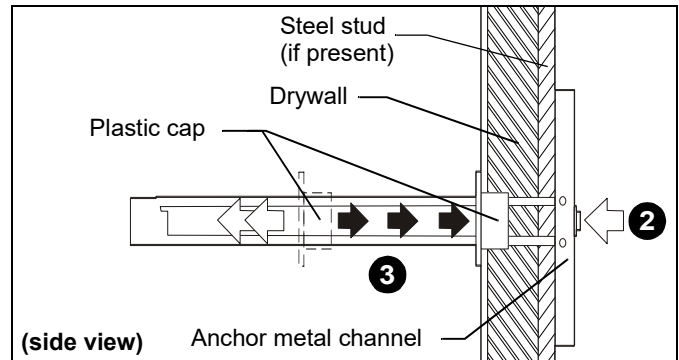

Figure 30
2. Holding plastic straps on anchor, pull anchor away from wall until channel rests flush behind wall making sure anchor channel is positioned vertically on drywall, or steel stud (if present). (See Figure 30)
3. Slide plastic cap on anchor towards wall until flange of cap is flush with wall. (See Figure 30)